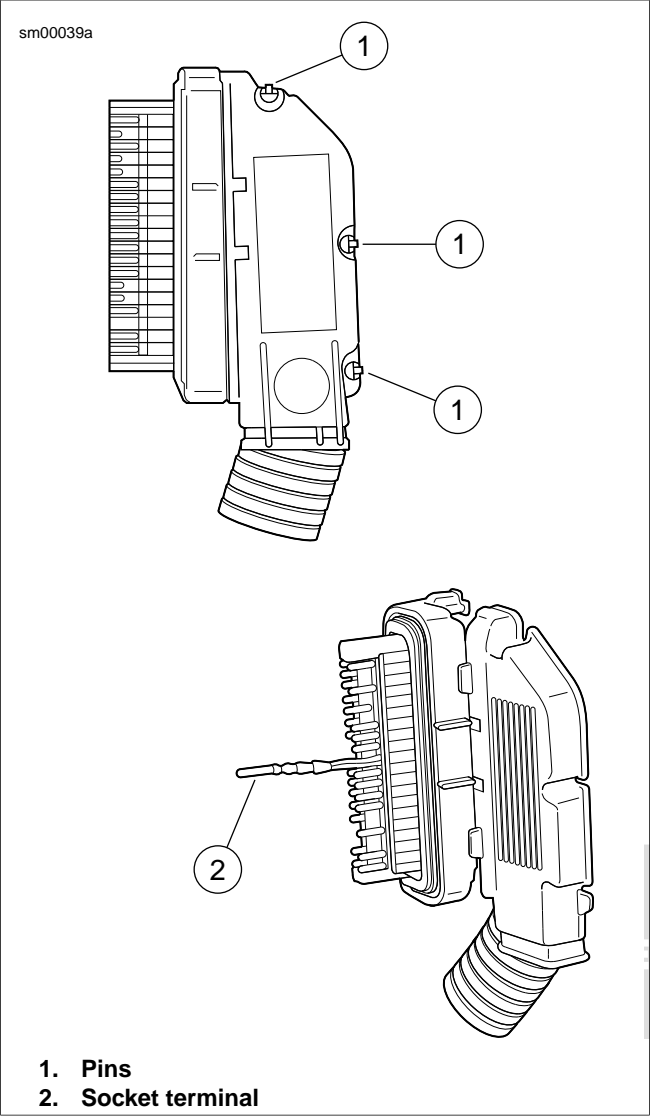

Figure A-8. Delphi 100W Micro-Pack Sealed Connector:
2. Carefully cut cable strap (3) to free strain relief collar (4) from conduit (5).
3. See Figure A-8. Using a thin blade, gently pry at seam at back of socket housing to release three plastic pins (1) from slots in housing. Separate and spread halves of socket housing.